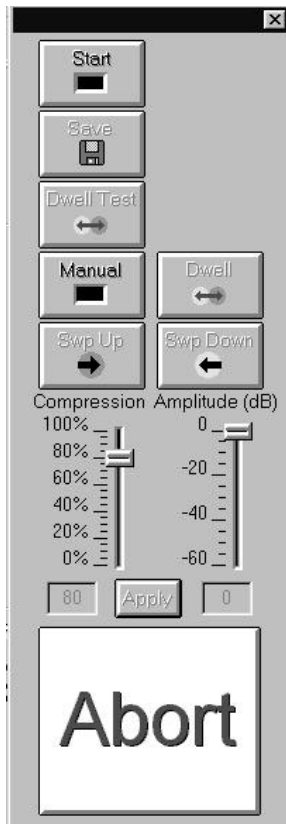

Figure 5-3. Test Control Tool
When **TEST CONTROL** is selected from the **VIEW** menu, the Test Control (TC) shown in Figures 5-3 & 5-4 will display. The TC, described next, has nine buttons and two sliders used to control the test.